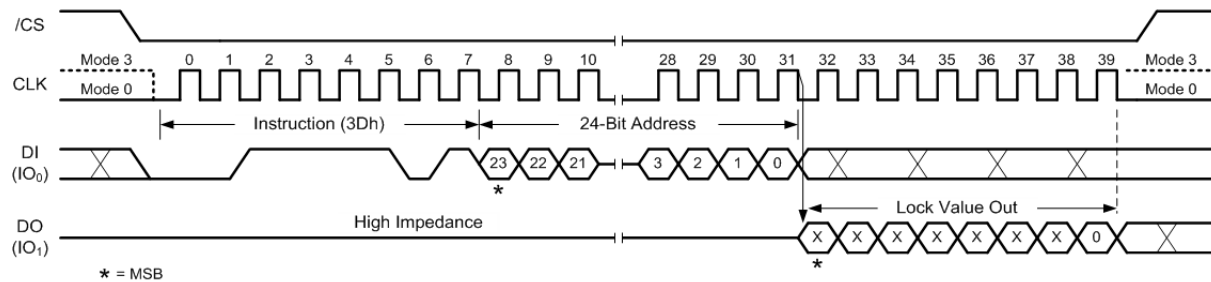
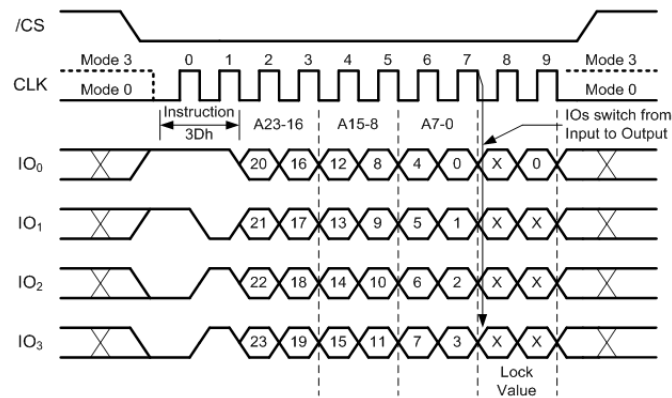

Figure 21: Read Block Lock Instruction (SPI Mode)
Figure 22: Read Block Lock Instruction (QPI Mode)
To read out the lock bit value of a specific block or sector, a Read Block/Sector Lock command must be issued by driving /CS low, shifting the instruction code “3Dh” into the Data Input (DI) pin on the rising edge of CLK, followed by a 24-bit address. The Block/Sector Lock bit value is shifted out on the DO pin at the falling edge of CLK with most significant bit (MSB) first as shown in Figure 21 and Figure 22. If the least significant bit (LSB) is 1, the corresponding block/sector is locked; if LSB = 0, the corresponding block/sector is unlocked, Erase/Program operation can be performed.